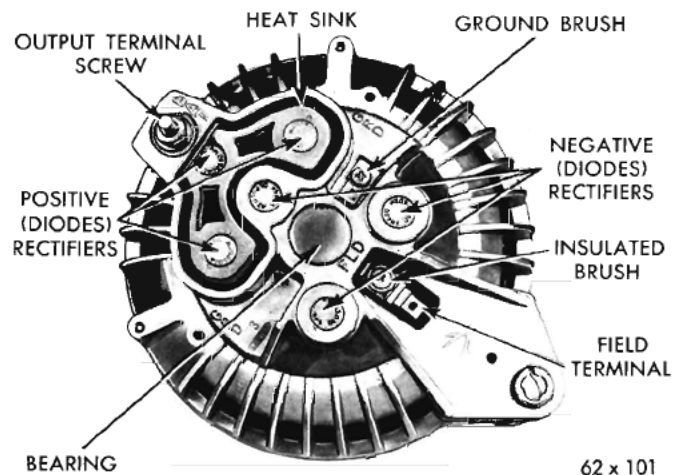

Fig. 1—Alternator Assembly
The alternator (Fig. 1) is fundamentally an A.C. current generator, with six (6) built-in silicon rectifiers, that convert the A.C. current into D.C. current. D.C. current is available at the "output" "BAT" terminal.